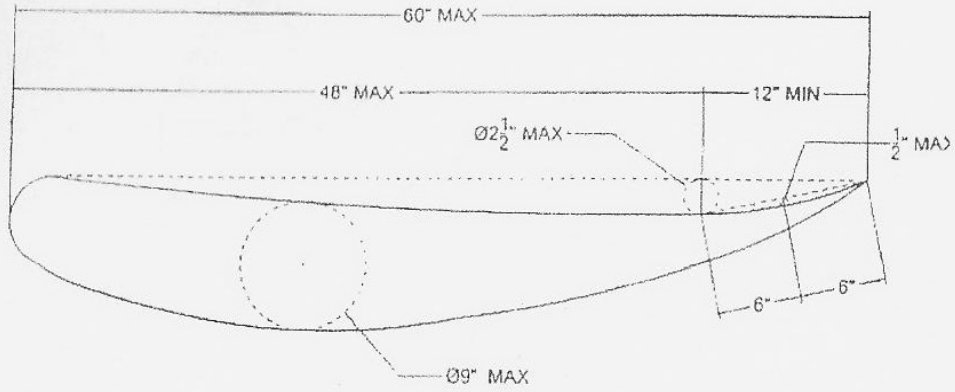

Figure 4
- i. Top wing: use is mandatory. Specifications: see figures 4, 5, 6 for detailed measurements. Maximum top wing size if 25 square feet with two 30 inch max. x 72 inch max. sideboards. They must measure equal distance from leading edge of side board to leading edge of belly. No “358 Type” wings. Side panels must be one piece and 90 degrees to center foil. Conventional looking wings only. NO split wings or bi wings. Top wings must not extend beyond outside of rear tires. 16" numbers on the sides and top of the top wing minimum. Wing width shall not exceed the width of the rear tires. No body pieces to extend past the bottom frame rails. No pieces shall be added to the frame to deflect, trap, or form an air brake unless used to cool or protect engine or brakes. No hydraulic wing adjusters. No manual adjusters that can be operated while car is in motion. The area on the left side of the cockpit must remain open. *Any belly in top wing, 1" wicker bill will be allowed. Flat top wings up to 2" wicker bill will be allowed.*